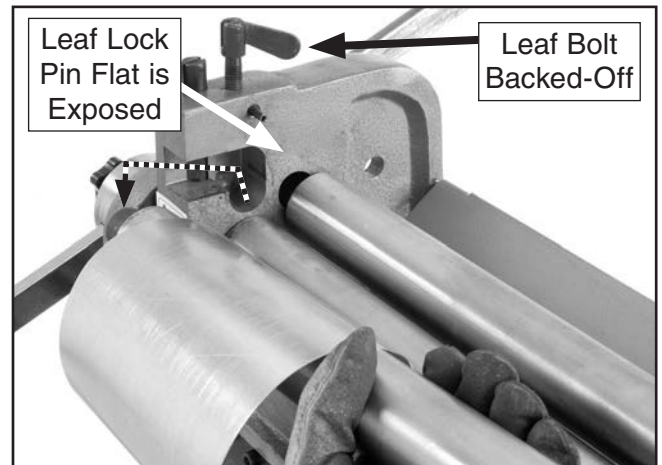

Figure 23. Cylinder removal.
10. To remove a cylinder, loosen the thickness adjustment leaf bolt, and rotate the lock leaf pin so the flat in the pin (**Figure 23**) allows the end of the top roller to be removed.
11. While you hold the end of the roller outward (**Figure 23**), and the other end is pressed in the machine, have an assistant slide the cylinder off. The roller is heavy, so do not try this alone.